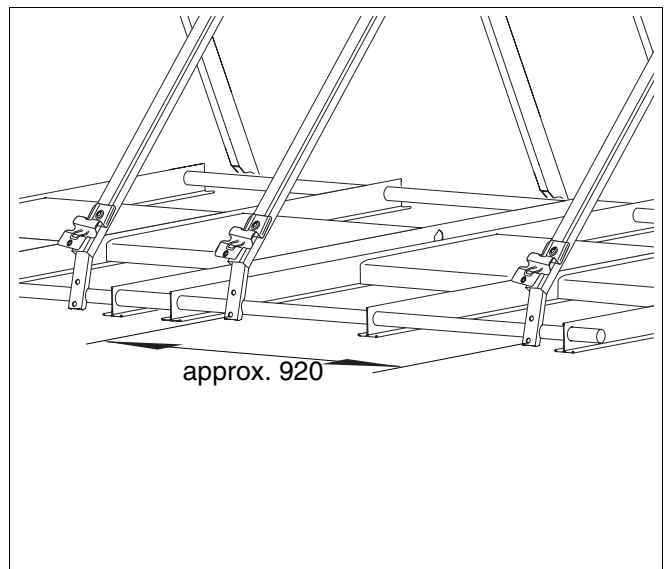

Fig. 24 Clearance between collector braces (dimension in mm)
- Measure this distance at the foot of the braces (Fig. 24).